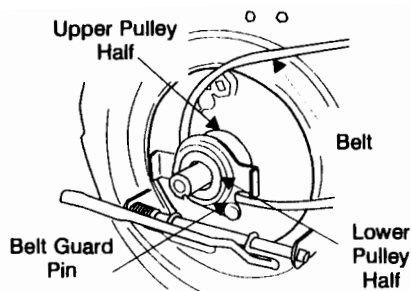

Figure 25
19. Place belt between the two pulley halves on the crankshaft. Make sure to route the belt inside the belt guard pin. See figure 25.
IMPORTANT: For proper assembly, it is essential to keep the assembly positioned as shown in figure 25.